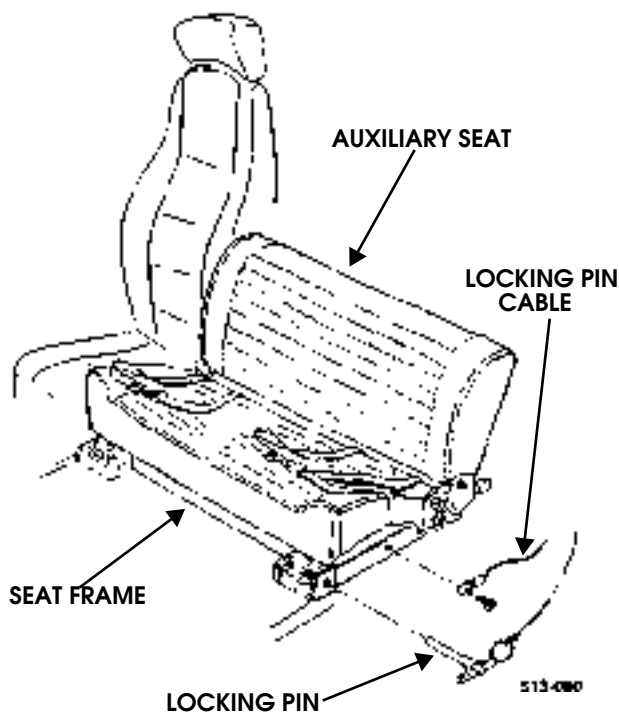

Figure 13-62: Auxiliary Seat Locking Pin
1. Remove two screws and locking pin cables from auxiliary seat frame (Figure 13-62).
1. Install and fasten two locking pins on auxiliary seat frame and auxiliary seat (Figure 13-62).